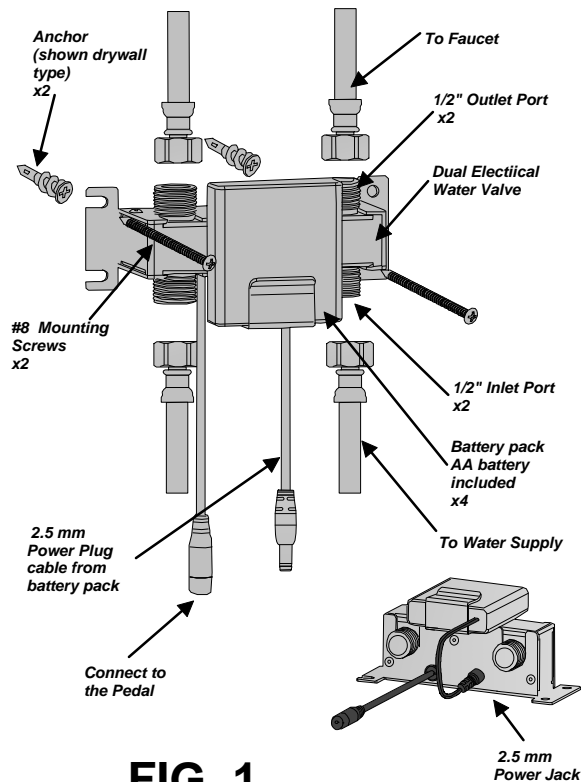

FIG. 1
2. Mount the AG250-003 valve to the wall in shown on FIG.1 position . Use supplied screws and anchors to mount valve. Install them in mounting openings on opposite corner of the unit (use 6mm/ 1/4" drill).
6. Connect 2.5 mm power plug cable from the battery pack to the 2.5mm power jack on the valve body (see FIG 1.)
6. Connect 3.5mm Female cable from the valve body to the pedal (see Fig. 1 and Fig. 2).